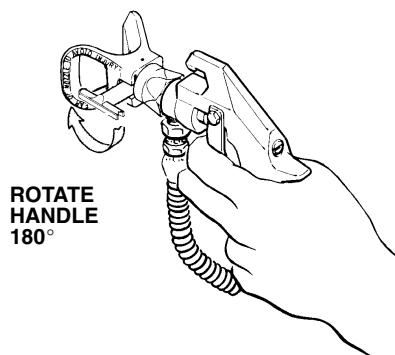

Fig 5
- c. **If using the RAC IV Spray Tip Kit**, rotate the RAC IV handle 180°. See Fig 5. Disengage the gun safety latch. Trigger the gun into a grounded waste container. Engage the gun safety latch again. Return the handle to the original position.